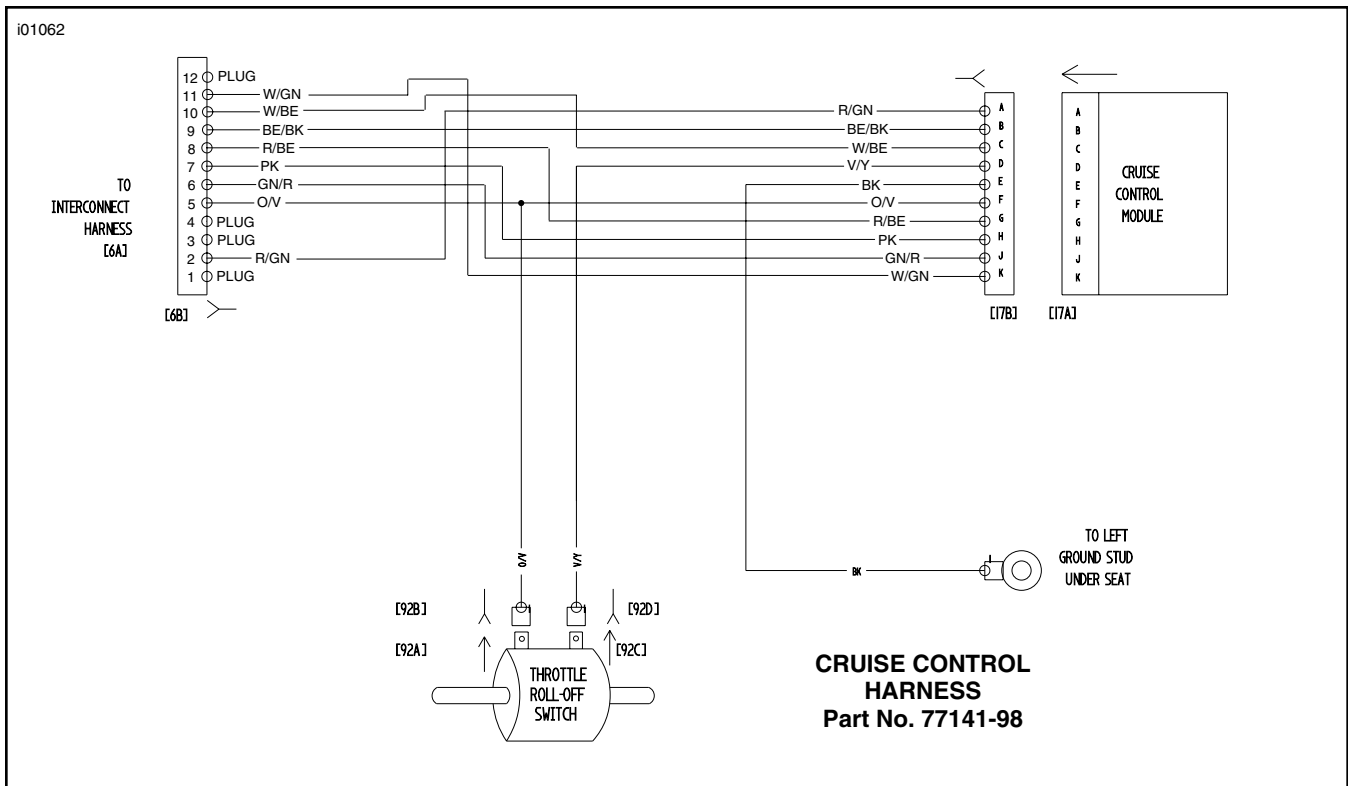

Figure 12. Electrical Connections
1. See Figure 12. The cruise control harness electrical connections are shown.